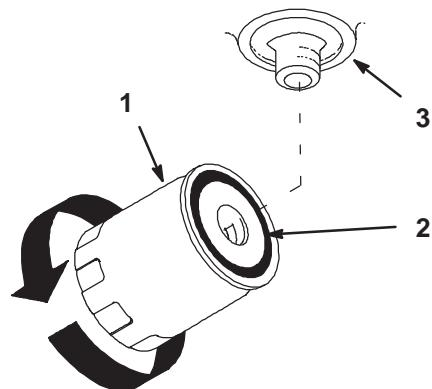

Figure 41
- Apply a thin coat hydro fluid to the rubber gasket on the replacement filter (Fig. 41).
- When fluid overflows filter turn the oil filter clockwise until the rubber gasket contacts the filter adapter, then tighten the filter an additional 1/2 turn (Fig. 41).